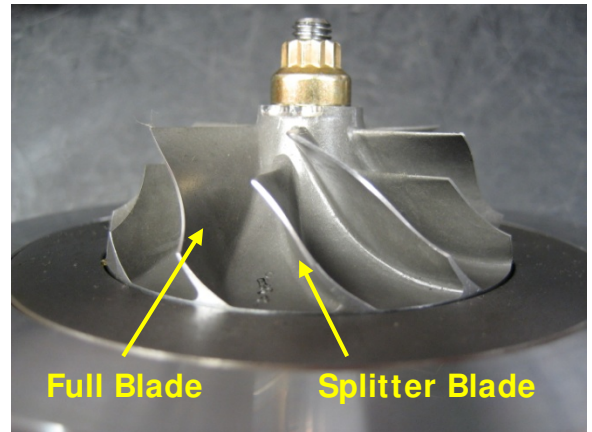

Fig. 9
8. Count the number of blades on your compressor wheel, including small (splitter) blades. Record this number below; you will need it later (see figure 9).